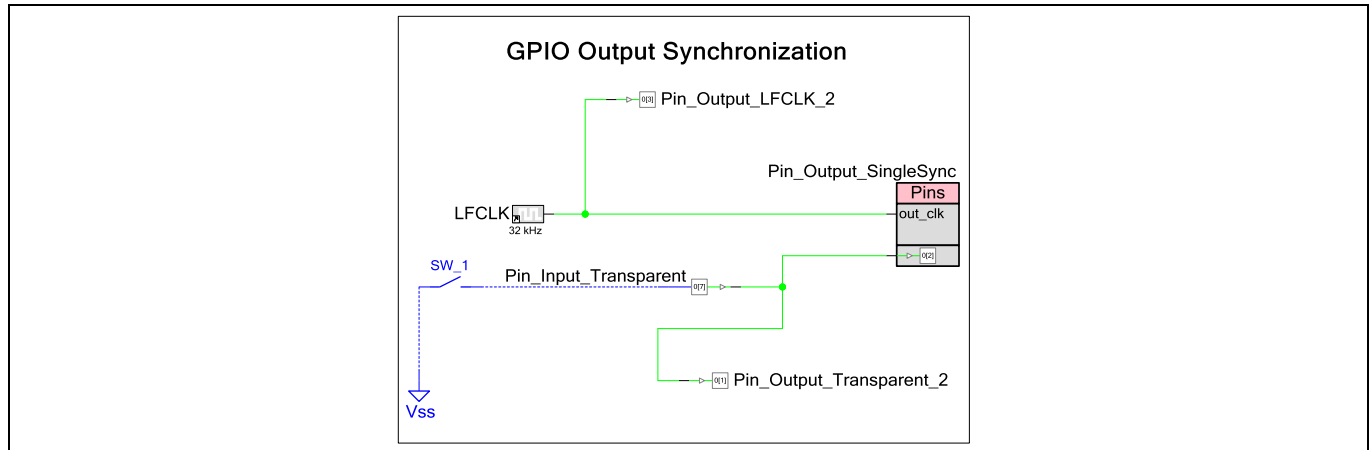

Figure 63 GPIO output synchronization example schematic
2. Connect the pins as shown in Figure 63.